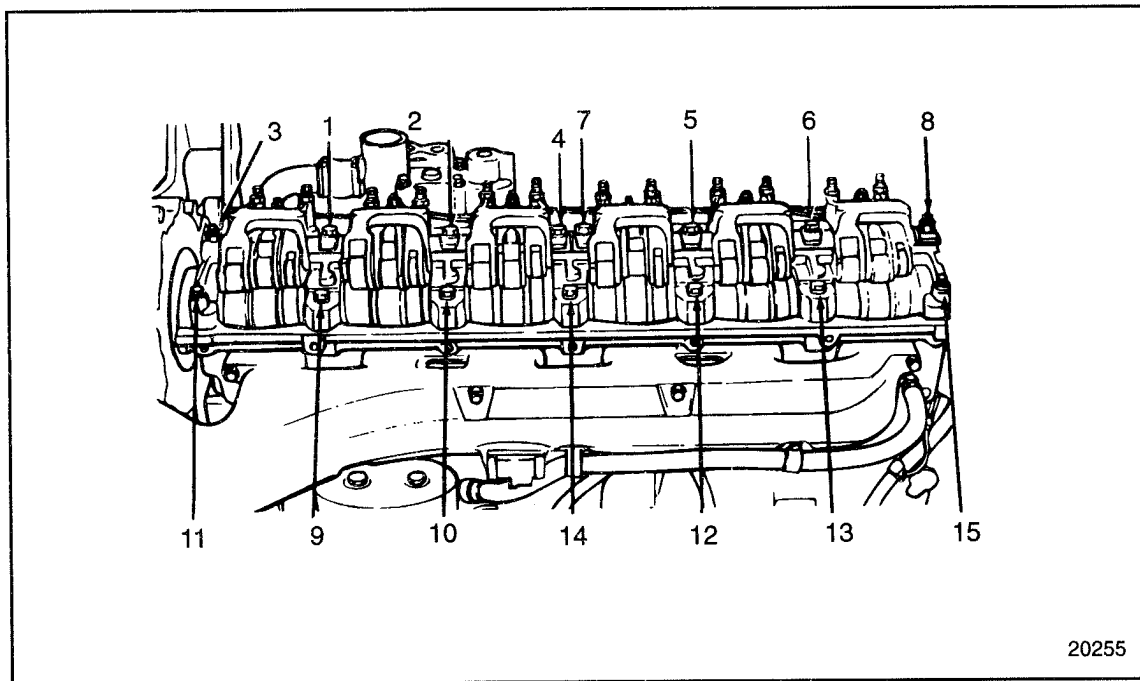

FIGURE 1-285 Camshaft Bearing Clearance Setup
- [e] Check the camshaft bearing clearance using plastic gaging material under each upper shell. See Figure 1-285.